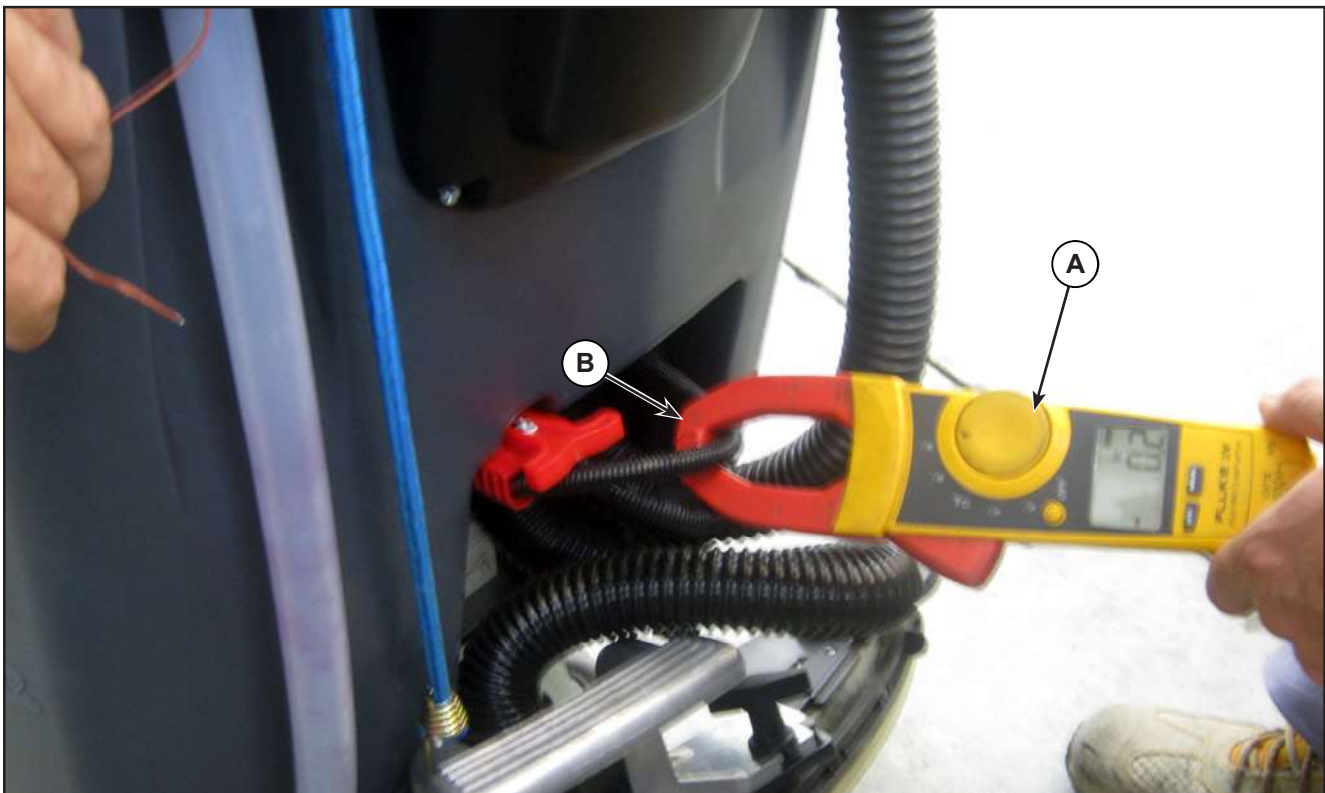

Figure 5:
1. Apply the amperometric clamp (A) to a cable (B) of the batteries (Figure 5).